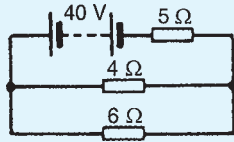

Figure 13.50
- Use Thévenin's theorem to find the current flowing in the $6\ \Omega$ resistor shown in Fig. 13.50 and the power dissipated in the $4\ \Omega$ resistor. [2.162 A, 42.07 W]